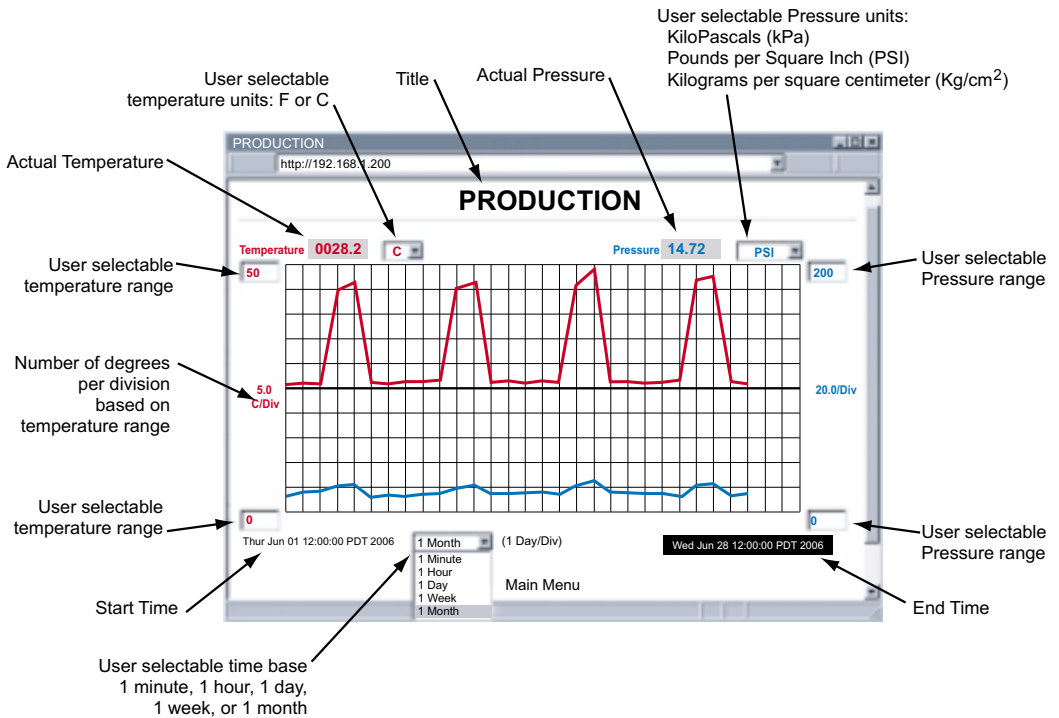

Figure 4.8 Chart
- Click on **Chart**, the following page (**Figure 4.8**) should appear. The Java™ Applet graph displays Temperature and Air Pressure and can be charted across the full span (0 to 70°C) or within any narrow range (such as 20-30°C). Air (inert gas) pressure can be displayed in kilopascals (kPa), pounds per square inch (psi) or kilograms per square centimeter (Kg/cm²). The time-base can display one minute, one hour, one day, one week, or one month.